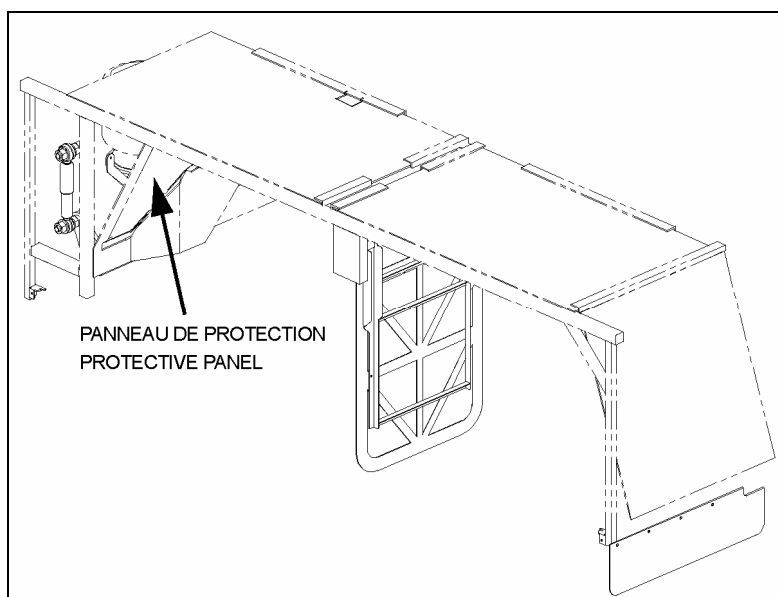

FIGURE 3
6. To access the expansion air tanks and air springs, remove the protective panels located in front of drive axle wheels (Refer to figure 3).